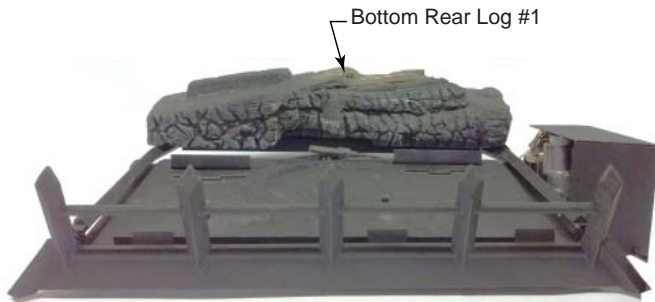

Figure 43
1. Place bottom log (#1) on two (2) pins on rear of grate assembly and push towards rear as far as possible. *Figure 43*